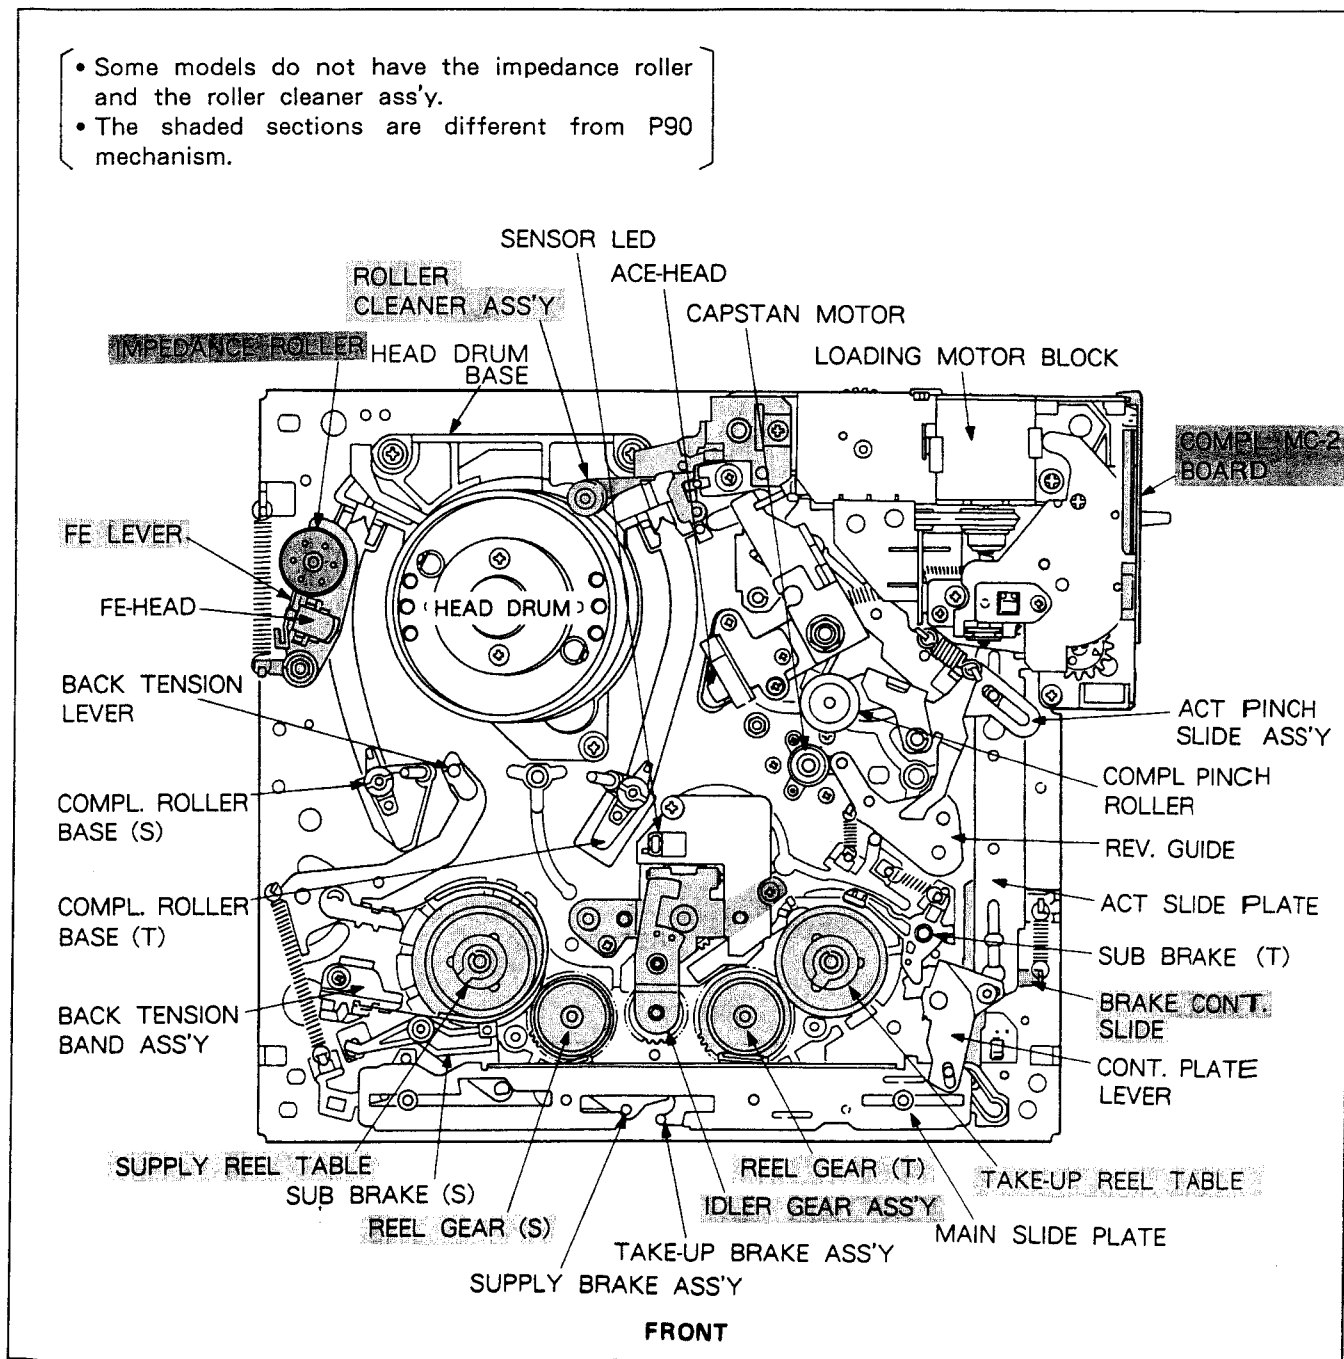
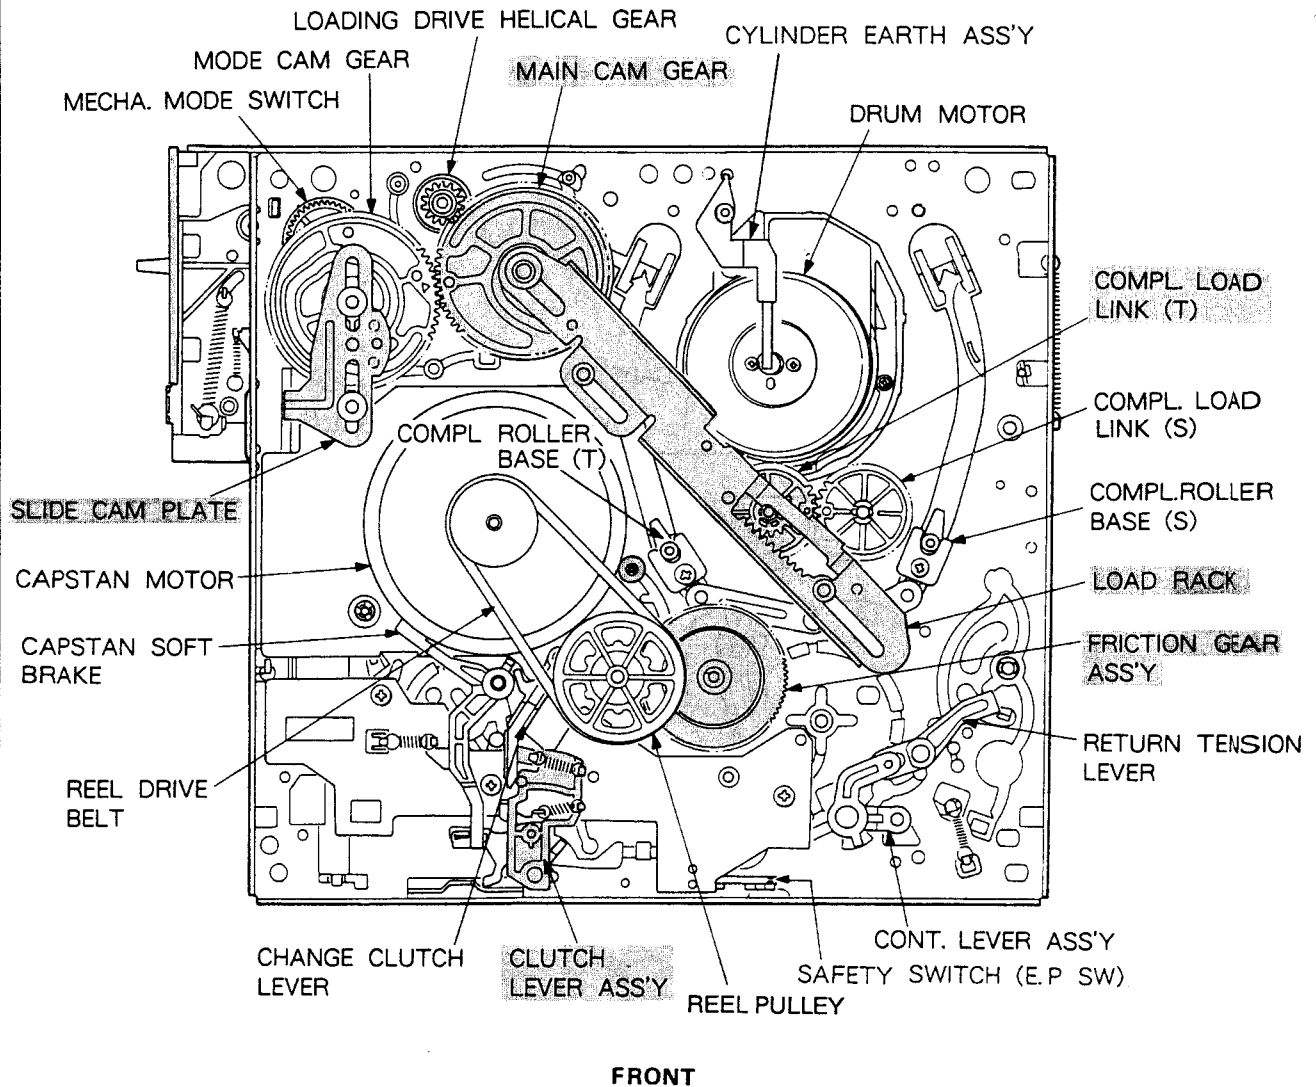

Fig. 2-1. Top View of Mechanism (Initial mode)
Fig. 2-2. Bottom View of Mechanism (Initial mode)
- (1) Some models have new reel drive system parts (supply reel table, take up reel table, reel gear (S), reel gear (T), COMPL idler clutch). As these are not interchangeable with the older ones, be sure to check the parts list when replacing them.
- (2) The main cam gear, load rack and load gear (T) have been replaced with new ones to further simplify the tape loading mechanism. Therefore, the load cam lever of the old mechanism is not required. The new tape loading mechanism is shown in the figure 2-1.
- (3) The MC-2 and MC-3 boards between the loading motor and system control circuit have been replaced with new ones. The MC-2 board incorporated in the HiFi model is different from that incorporated in the MONAURAL model. Therefore when using the mode selector (VHJ-0050) of the service tool, each model will require its own relay board. The MC-2 board used in the HiFi model and MONAURAL model of the 92 Midi mid-mount mechanism can be differentiated as follows.
To realize the thin type mechanism, a loading motor and two pieces of cam (MAIN CAM GEAR and the MODE CAM GEAR) to be driven by the said motor are mounted on the upper part of the capstan motor, that was a dead space in the conventional mechanisms hitherto available, with a view to optimization of parts mounting layout. (Fig. 2-1 and Fig. 2-2.)